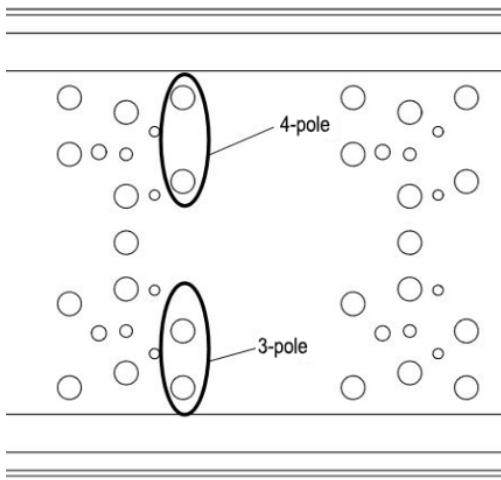
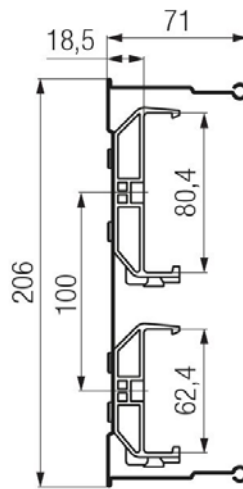
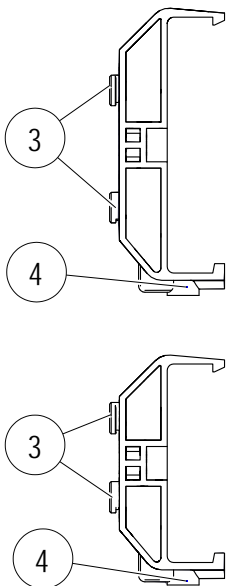
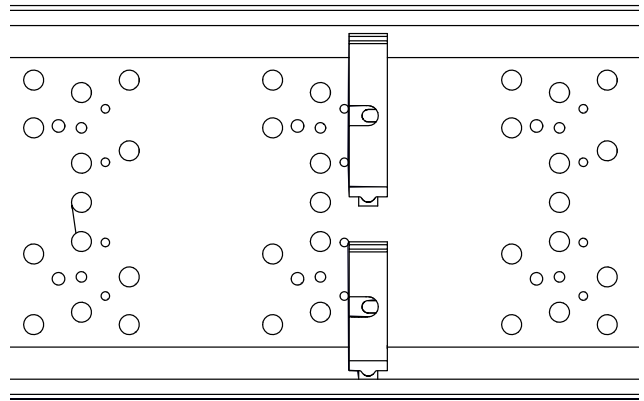

Fig. 63: Series of holes for 7-pole hanger clamp 0831 in ProShell 206 Support Profile System
Fig. 64: Dimensions of 7-pole hanger clamp 0831 in ProShell 206
Fig. 65: Locking pin (4) and pin (3)
Fig. 68: 7-pole hanger clamp 0831
The special rows of holes in the ProShell 206 support profile rails allow the hanger clamps to be easily hung (see Fig. 63). For seven or eight poles, two different hanger clamps (e.g. 3-pole with 4-pole or 5-pole with 3-pole or 4-pole with 4-pole) are combined with one another (see Fig. 64 to Fig. 65).
1. Hook the locking pin (4) of the hanger clamp onto the lower frame of the ProShell support profile so that by screwing in the hanger clamp, the two pins (3) are sunk into the holes of the ProShell support profile (see Fig. 65 to Fig. 68). Install the 4-pole hanger clamp in the upper part of the ProShell support profile in the same way as the 3-pole hanger clamp